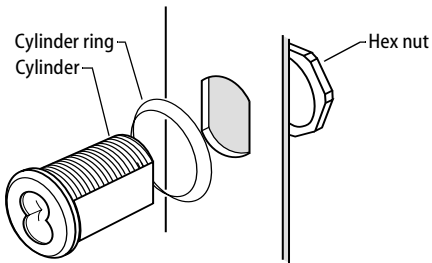

Figure 3 Installing the switch lock, 1W7B3 shown
- 1 Install and secure the cylinder in the hole with the ring and hex nut as shown in Figure 3.